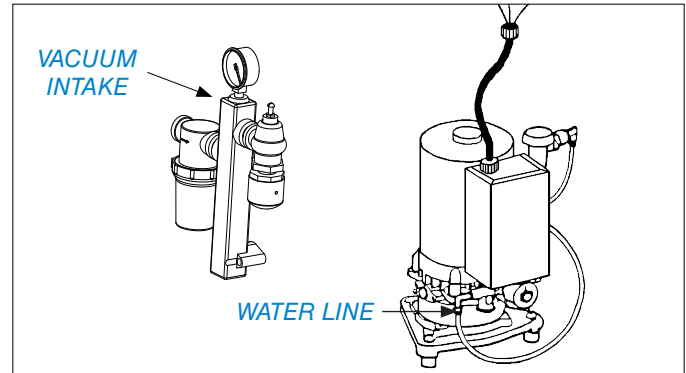

FIGURE 9. DISCONNECT VACUUM INTAKE AND WATER LINE
7. Disconnect the water line at the pump (*FIG 9*).